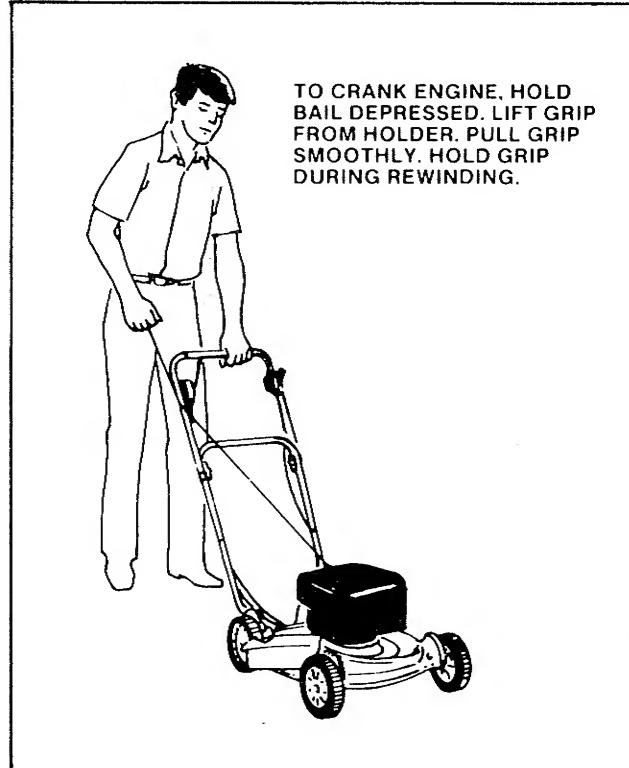

FIGURE 8
## STEPS FOR STARTING AND STOPPING ENGINE (See Figure 8)
3. Grasp and lift starter grip. Depress and hold the *bail* against upper handle. (See Figure 8.) The bail is part of the safety and engine stopping system. The engine cannot be started if the bail is not depressed. The engine will stop running when the bail is released.